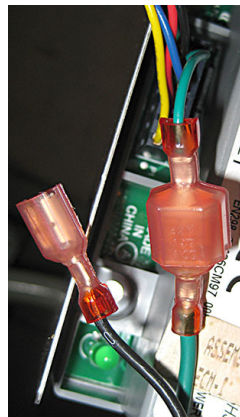

Figure 13
17. On full vat right module and both split vat modules, attach the green wire removed from the old module in step 11 to the green wire on the 8-pin connector attached to the module in previous step. Leave the black wire disconnected, as it is not used (see Figure 13). Reference wiring diagram on page 3.